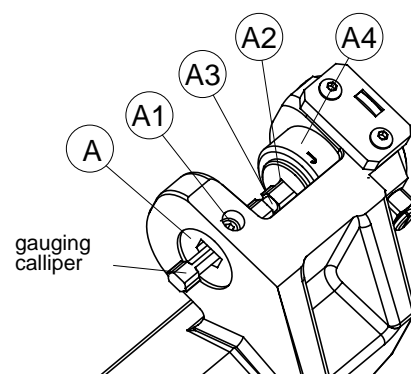
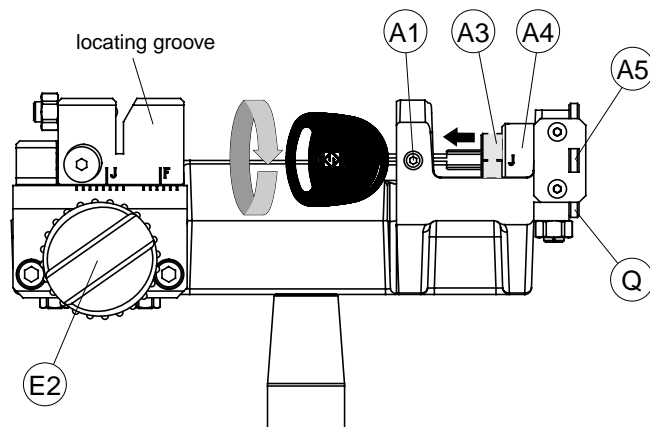
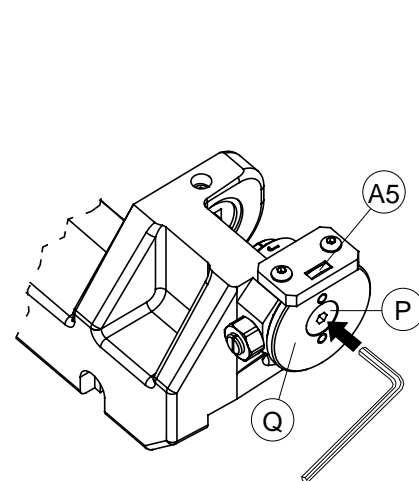

Fig. 12
Fig. 15
Fig. 16
- 2) insert the tip of the gauging calliper (provided) into the rotating clamp (A), push up against the tip stop (A2) and lock in the calliper by tightening the grub screw (A1) (fig.12). The calliper must be positioned horizontally as shown in the illustration; if adjustment is necessary use the hex wrench provided to turn the screw (P) (fig.16, page 13) so that the drum (A4) turns clockwise.
- 2) hold the key head firmly and use the left hand to loosen the screw (P) (fig.16) with the wrench provided.
- 3) exert slight pressure in the direction of the arrow (fig.16) and unscrew the screw (P) slowly so that the cylinder (A3) protrudes a few millimetres (fig.15).
- 5) let the cylinder (A3) withdraw and press on the key head to tighten screw (P). The cylinder must return freely into its seat. If necessary, seek its proper position by turning the key slightly in the two directions.
- 6) turn the key 90° to pull the coded angle device. The letter visible on the drum (A4) will now be different, as will the colour of the numbers in the window (A5).
- 3) set the cutting position on the coded spacing device by means of knob (E2) (fig.15). Exert pressure on the head to turn the key and turn the angle counter (Q) (fig.16) until the required code is visible in the window (A5).
- 4) start the machine with the motor/brush start switch (D).
- 5) take the carriage towards the cutting tool, ensuring that the tracer point enters the locating groove all the way (fig.15). When the cut has been made, move the carriage back and turn the key until the same code appears in the window (A5), after the number "1" has appeared. Repeat the cutting operation.